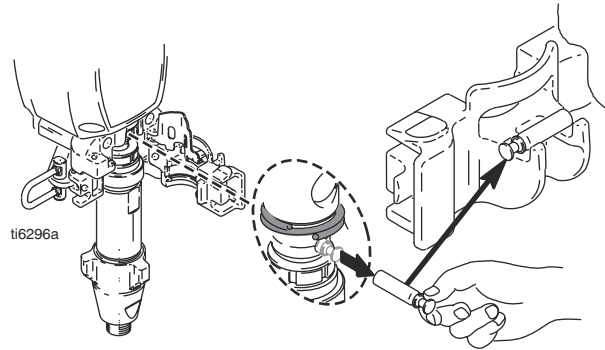

FIG. 23
- 10. FIG. 23. Pull out pump pin and place in pin holder